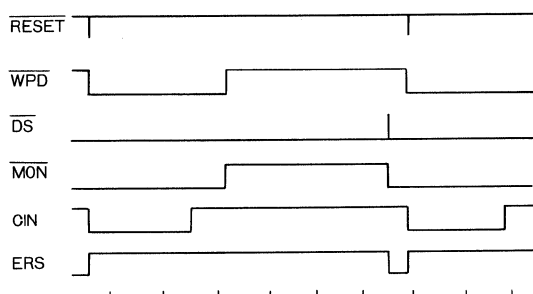

Fig.29
(8) ERASE (Table12, Fig.29, 30参照)